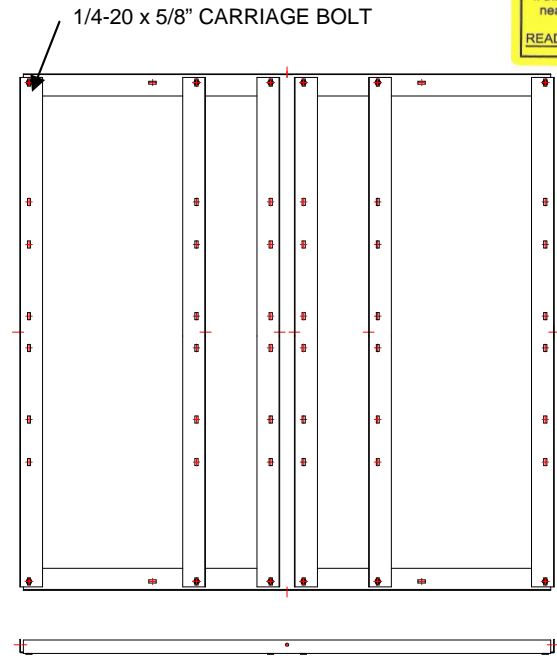

Figure 1 (Top & Side View)
1- Assemble Base Frames using twelve (12) 1/4-20x5/8" Carriage Bolts, Lock washers and Hex Nuts. **Make sure to assemble the Bolts with the Heads on the underside of the frame.** Hex Nut should be on the top side of the frame. (See Figures 1 & 2). Position the centre braces as shown in Figure 4.